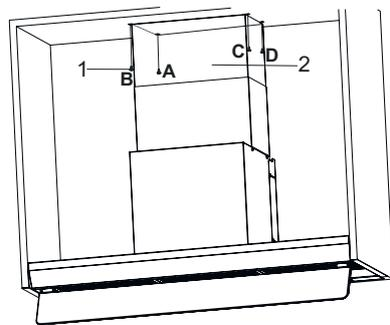

Fig. 18
7. → Pull the inner flue towards the top of the kitchen cabinet (Fig. 18).
Using the 4 connection screws, screw the sheet metal flue to the kitchen cabinet at points A,B,C,D (Fig. 18).